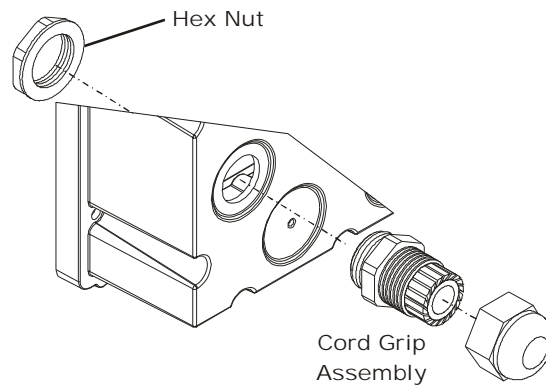

FIG. 83: INSTALLING THE HEX NUT ONTO THE CORD GRIP ASSEMBLY
- Slide the Cord Grip Assembly into the hole in the rear cover. (See Fig. 83)